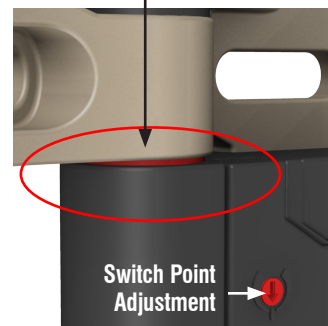

Figure 2. Setting the switch point
2. Place the guard in its closed and latched position. Double-check that the installation is correct and the resulting switching action is as expected. See Figure 2.